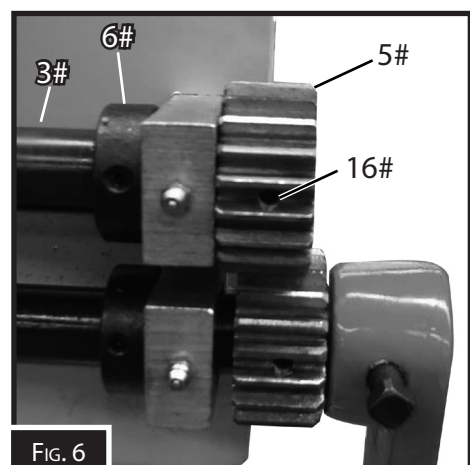

FIG. 6
3. Using the hex key wrench supplied (27#) loosen screws (16#) that secure gear (5#) and collar (6#) to the driving shaft (3#). (Fig. 6)